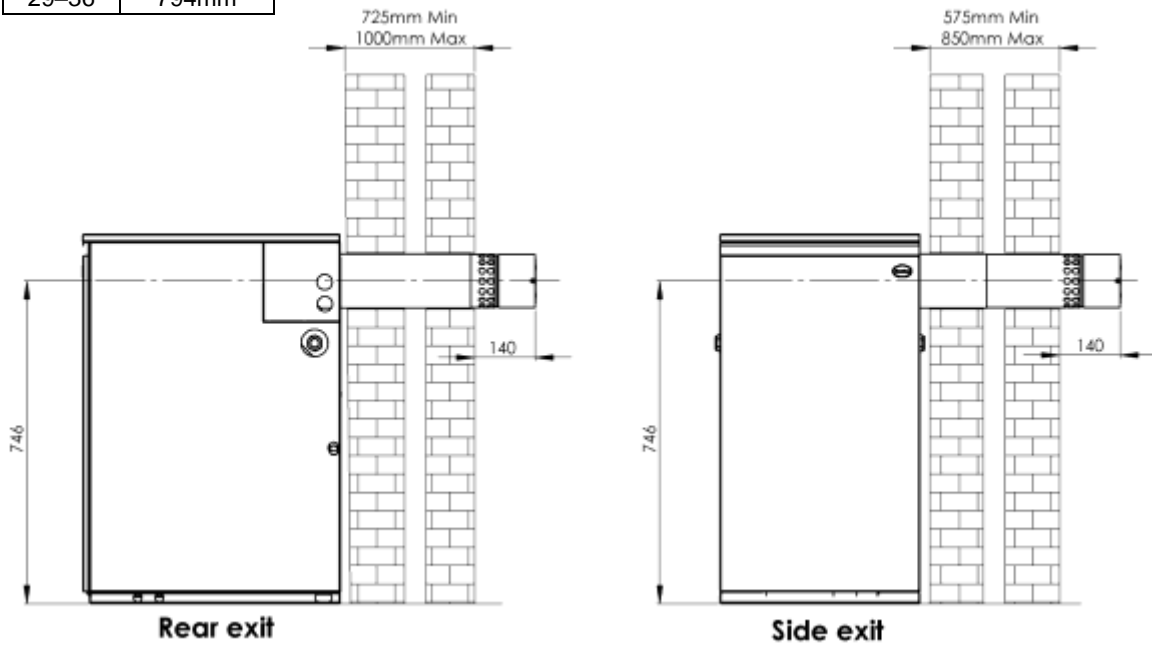

FIG. 18
- Adjust the terminal length as required, ensuring a minimum distance of 140mm is kept from the end of the terminal to the external face of the wall. See **figs 18–19** for allowable distances.